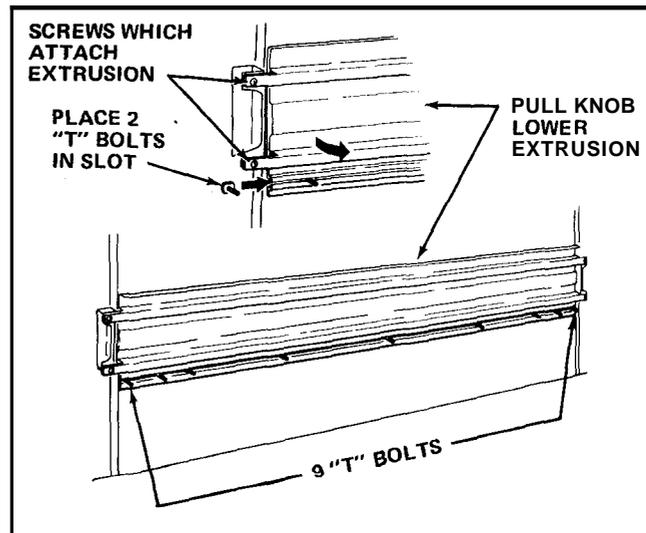

FIGURE 3
6. Place the two "T" Bolts, part number 222-2110, in the slot in the Pull Knob Lower Extrusion. The total number of "T" Bolts in the slot should total nine. See Figure 3. To install the "T" Bolts in may be necessary to loosen the two Screws which attach one end of the Extrusion to the Door. Tighten the Screws as soon as the "T" Bolts are installed.